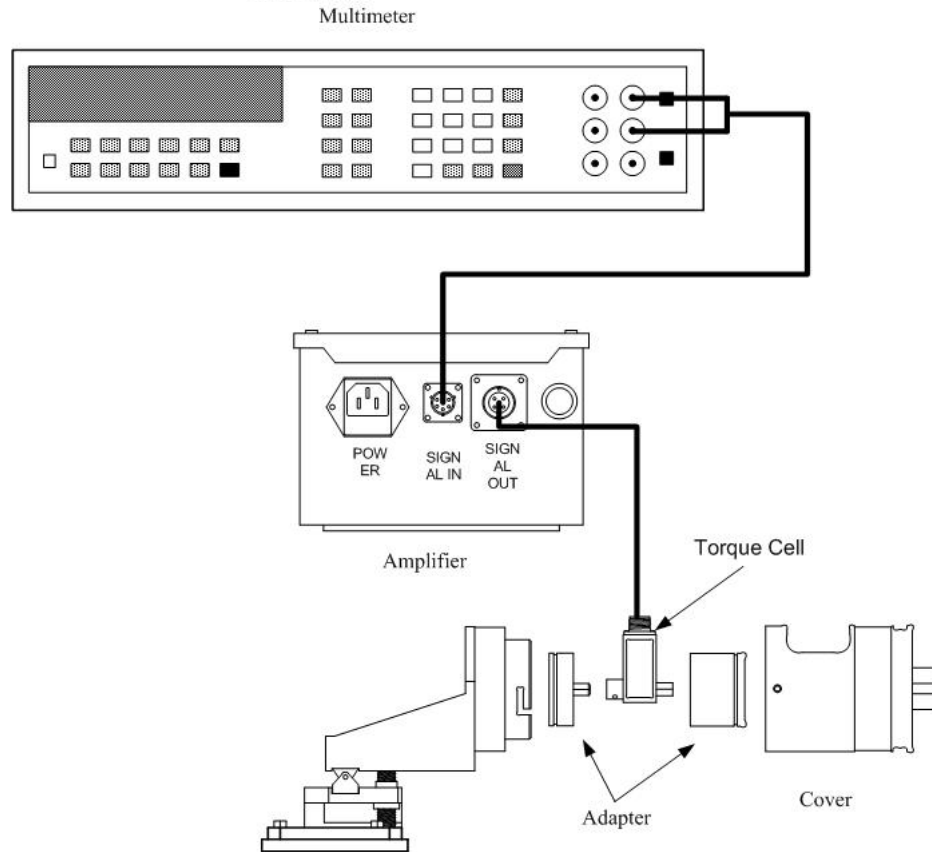

Figure 1. Electrical connection configuration.
d. Connect equipment as illustrated in figure 1.
e. Select load cell to be tested and install into the horizontal calibration fixture as illustrated in figure 1.
(1) Select the load cell to be calibrated and install into the horizontal calibration fixture as illustrated in figure 1.
(2) Attach appropriate calibrator arm for load cell being calibrated. Calibration arm 6” for 5, 20, and 100 lb load cells and 48” for the 500 and 1000 lb load cells.
(2) Attach appropriate calibrator arm for load cell being calibrated. Calibration arm 6" for 5, 20, and 100 lb load cells and 48" for the 500 and 1000 lb load cells.